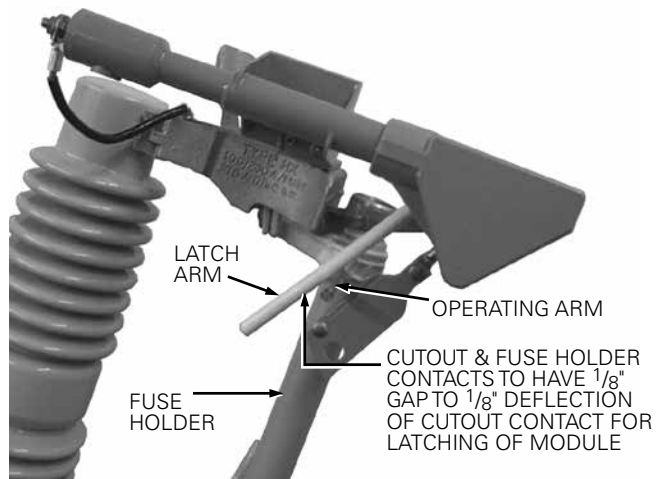

Figure 3. HX-CB loadbreak fuse cutout.
- Slowly move the fuse holder\* to the closed position. See Figure 3. The operating arm should be resting against the latch arm.